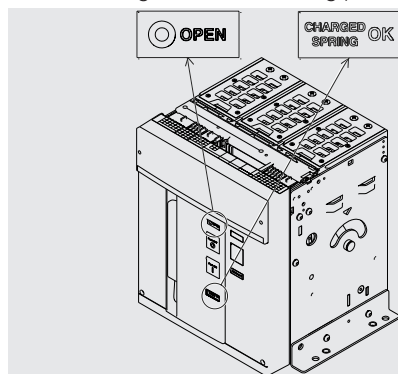

Figure 27
3. Check that the circuit-breaker is open (open/closed signalling device "O - OPEN"), and check that the springs are charged (springs signalling device "yellow - CHARGED SPRING") as indicated in Figure 27.